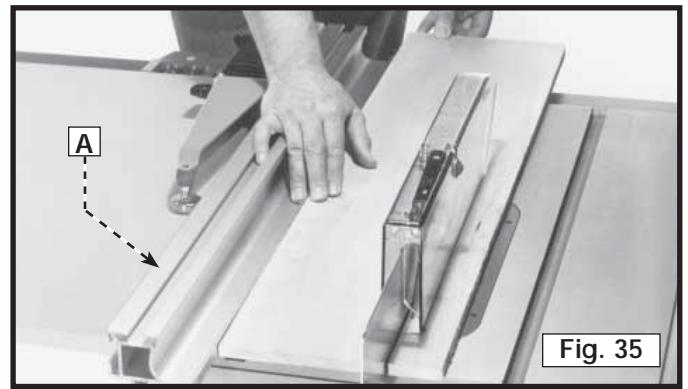

Fig. 35
Ripping is cutting lengthwise through a board (Fig. 35).
1. Start the motor and advance the work, holding it down and against the fence. **Never** stand in the line of the saw cut when ripping. When the rip width is 6" or wider, hold the work with both hands and push it along the fence and into the saw blade (Fig. 35). Feed the work through the saw blade with the right hand. Use the left hand to guide the workpiece. Do not feed the workpiece with the left hand. After the workpiece is beyond the saw blade and anti-kickback fingers, remove your hands from the work.